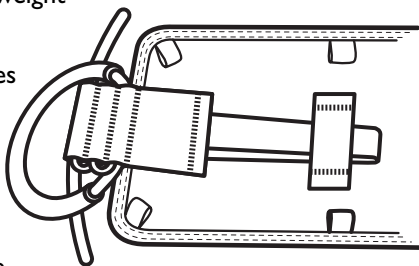

Figure 6
2. Thread the nylon lanyard that attaches the weight release handle to the weight pocket assembly under the nylon loop on the back of the weight pocket assembly so that it lies flat. The lanyard will be doubled over when it is properly installed. See Figure 6.